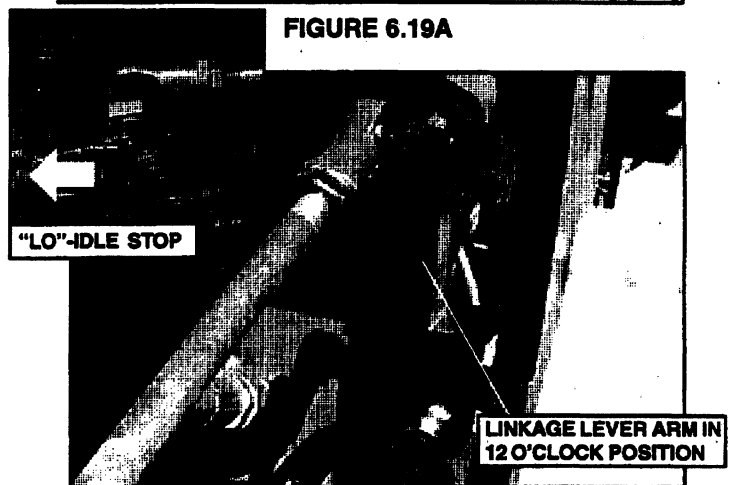

FIGURE 6.20A
19. While holding the Governor Lever against the Engine Low Idle position, locate the linkage lever arm onto the stepping motor splined shaft at approximately 12 o'clock position and secure the Ball Joint to the governor arm. See Figure 6.20A.